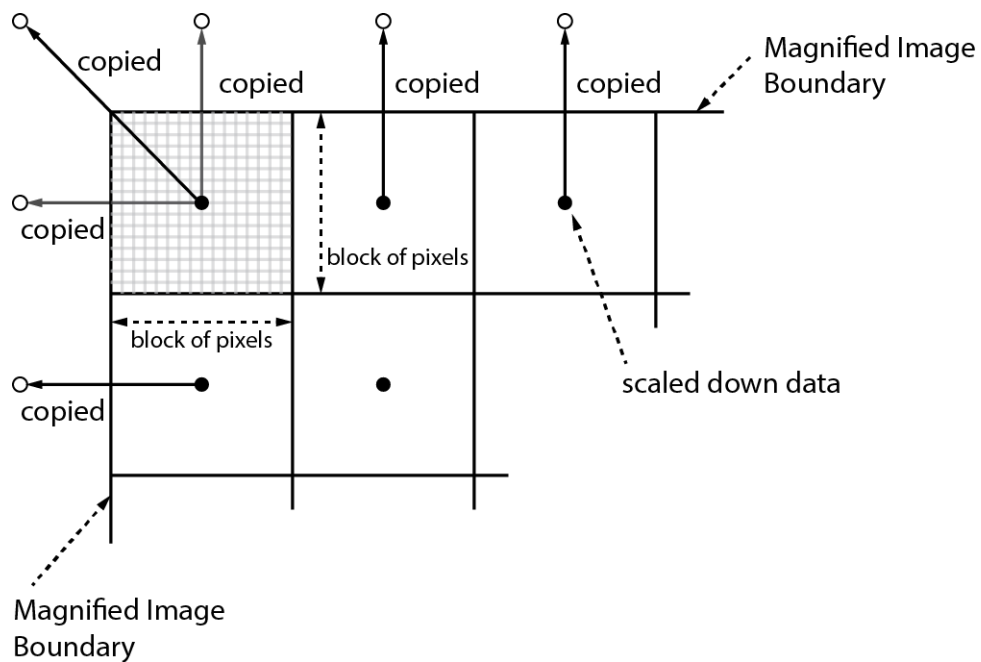

Figure 9.9 Bilinear Interpolated Magnification
3. Click the **Save to Flash** button in the **Flash Memory** category to save the generated Flat Field correction data into the non-volatile memory. The scaled-down Flat Field correction data will be expanded and then applied as shown in the Figure 9.9 when it is used for correction.
The scaled-down Flat Field correction data will be expanded and then applied as shown in the Figure 9.9 when it is used for correction.